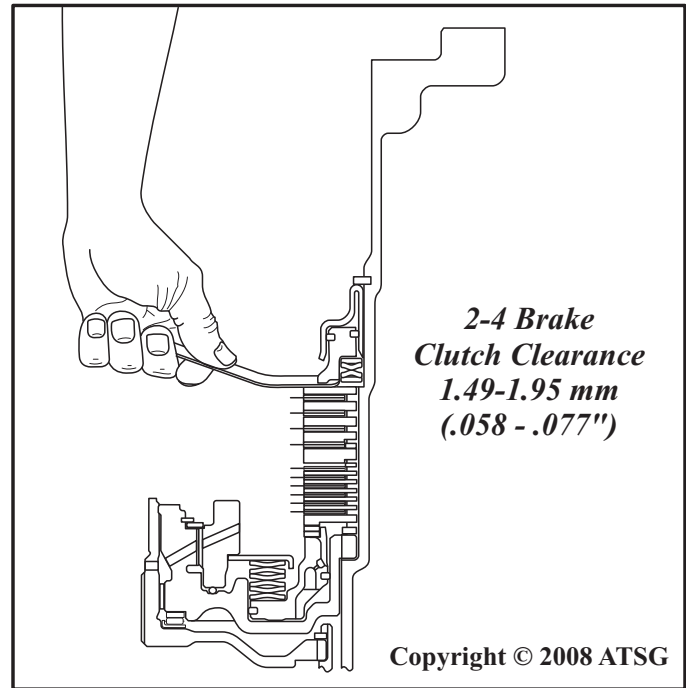

Figure 200
40. Measure the 2-4 brake clutch clearance with a feeler gauge, between the apply plate and the 2-4 clutch piston, as shown in Figure 200.